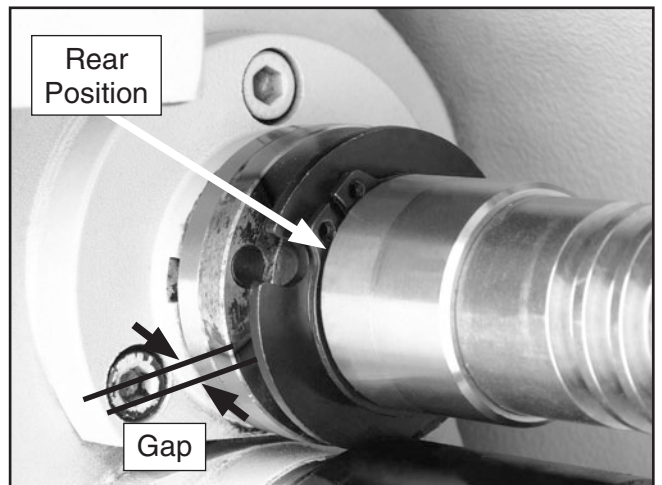

Figure 128. Shear pin access.
5. Using retaining ring pliers remove the retaining ring from its groove and place it in the rear most position away from the shroud washer (**Figure 128**).
6. Move the shroud washer away from the shear pin to the rear position so there is a gap to remove the shear pin (**Figure 128**).